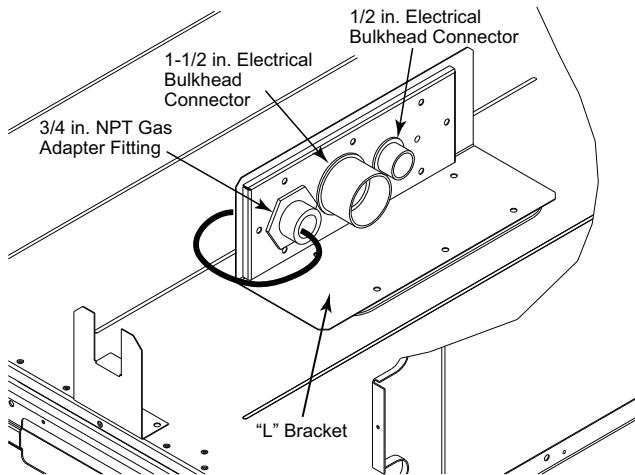

Fig. 17 – Thru-Base Connection Fittings
This service connection kit consists of a 3/4-in. NPT gas adapter fitting (stainless steel), a 1/2-in. electrical bulkhead connector and a 1-1/2-in. electrical bulkhead connector, connected to an "L" bracket covering the embossed (raised) section of the unit basepan in the condenser section. See Fig. 17.
1. Remove the "L" bracket assembly from the unit (see Fig. 17).